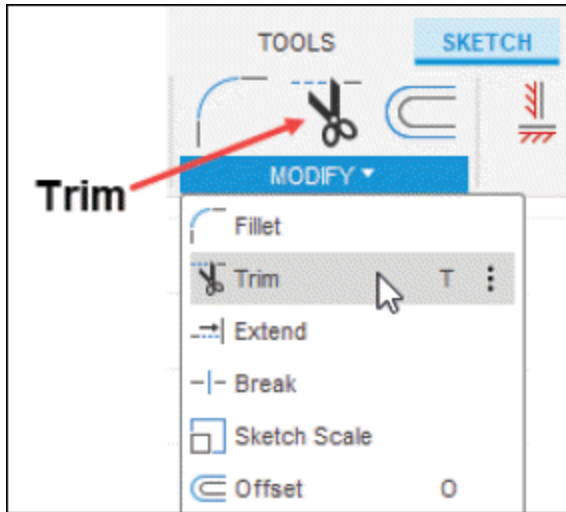

Figure-78. Trim tool
- Click on **Trim** tool of **MODIFY** drop-down from **Toolbar**; refer to Figure-78.